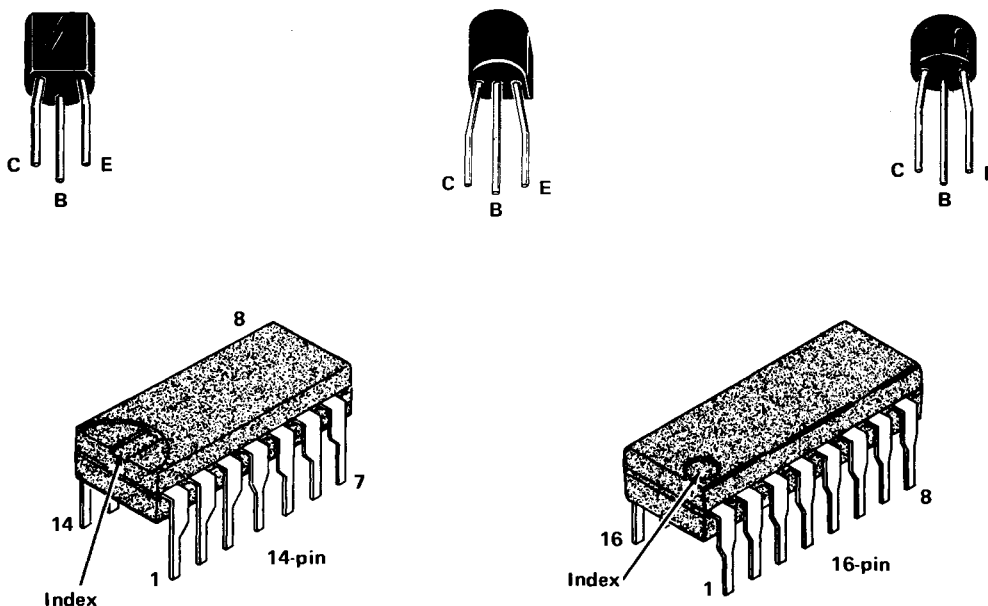

Fig. 3-1. Semiconductor Lead Configuration.
Individual Components. The following methods are provided for checking the individual components in the 7M13. Components that are soldered in place are best checked by disconnecting one end to isolate the measurement from the effects of related circuitry. Fig. 3-1 shows the lead configuration of the semiconductor devices used in this instrument.
1. TRANSISTORS AND INTEGRATED CIRCUITS. The best check of transistor and integrated circuit operation is actual performance under operating conditions. If a transistor or integrated circuit is suspected of being defective, it can best be checked by substituting a component known to be good. However, be sure that circuit conditions are not such that a replacement might also be damaged. If substitute transistors are not available, use a dynamic tester, such as Tektronix Type 576. Static-type testers may be used, but since they do not check operation under simulated operating conditions, some defects may go unnoticed. Fig. 3-1 shows base pin arrangements of semiconductor devices. Be sure the power is off before attempting to remove or replace any transistor or integrated circuit.